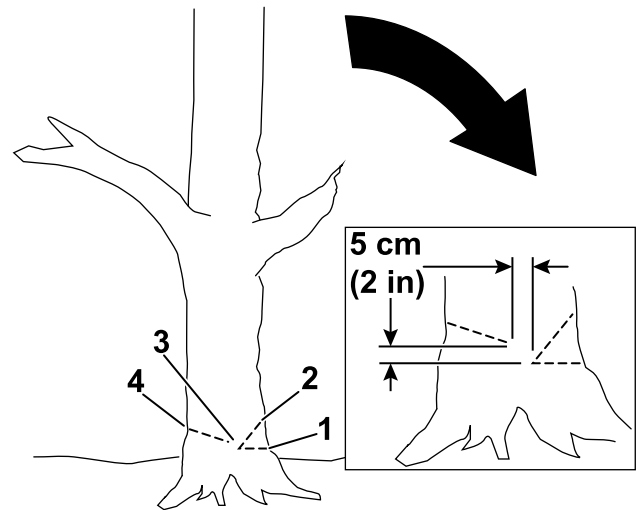

Figure 16
- Make a second cut to form a notch, starting the cut at least 5 cm (2 inches) above and away from the first cut (Figure 16).
- Make the back cut from the opposite side of the notch and about 5 cm (2 inches) higher than the bottom of the notch as shown in Figure 16.
Important: Stop the third cut 2.5 to 5.0 cm (1 to 2 inches) from the notch to form a hinge between the cuts (Figure 16), which keeps the tree from falling in the wrong direction or twisting as it falls.
Note: As the back cut nears the hinge (Figure 16), the tree should begin to fall.
- Make the first cut a third of the way through the tree diameter on the side where you want the tree to fall (Figure 16).